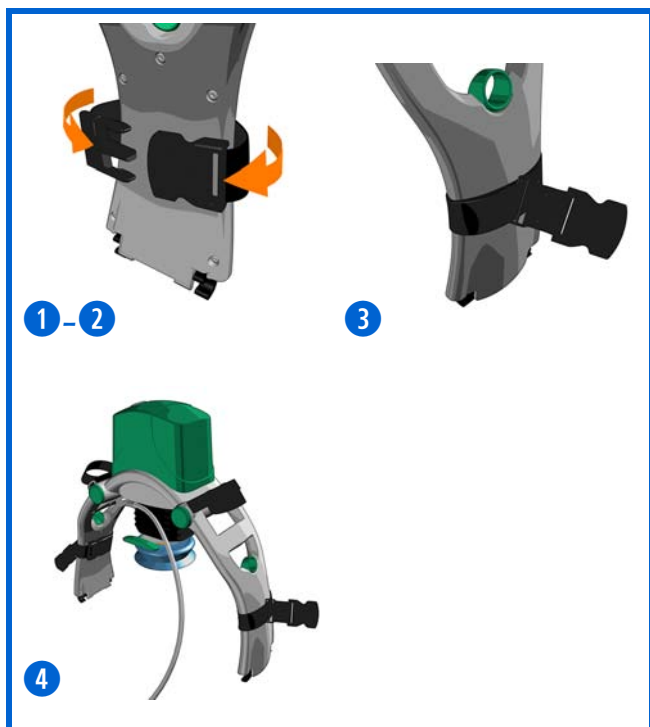

Figure 4. Attaching the device straps (1-3), LUCAS Chest Compression System with both device straps attached (4).
2. Verify that the device straps are fitted correctly as shown in Figure 4.